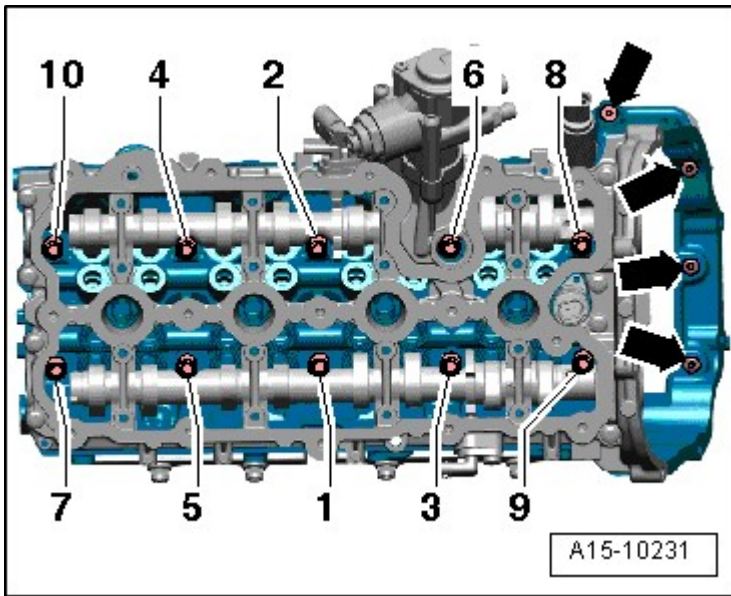

Fig. 7: Identifying Cylinder Head Tightening Sequence
- Tightening specification and sequence, refer to **Fig. 7**